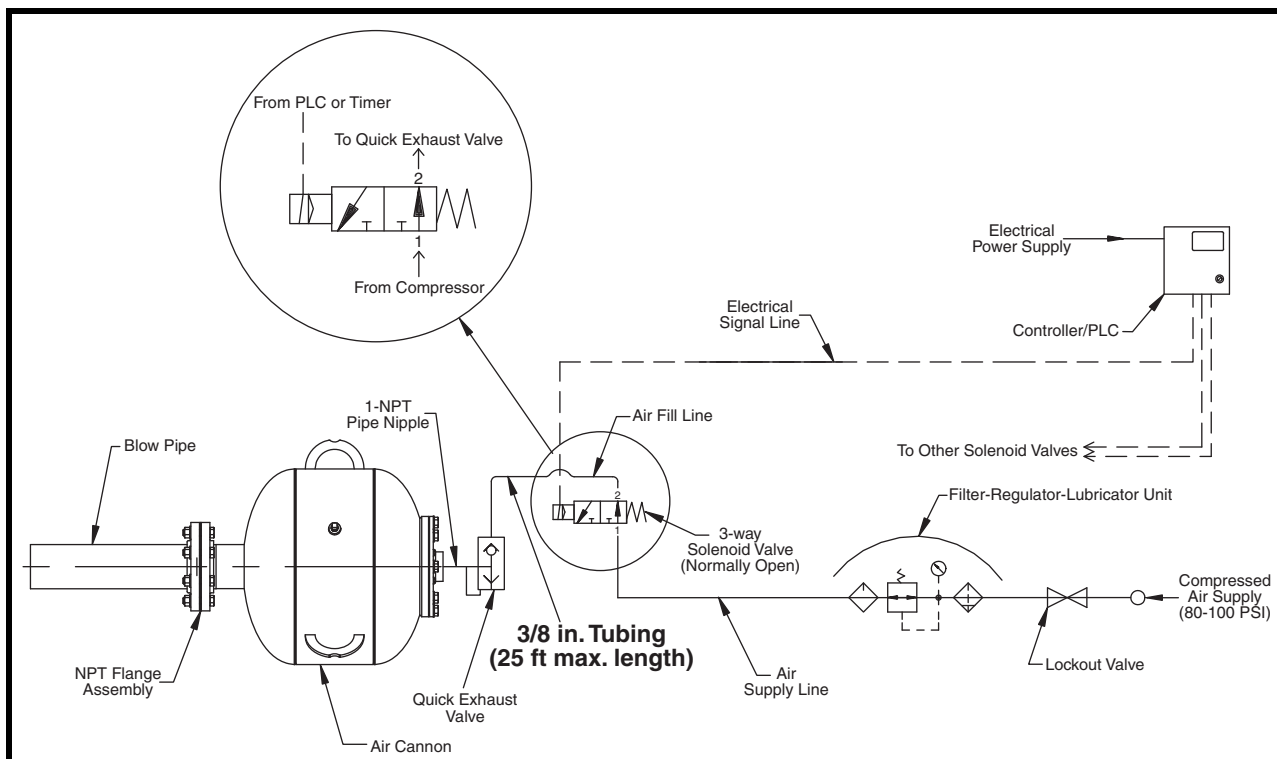

Figure 15. Solenoid Enclosure Piping
16. Refer to Figure 15 and follow steps 1 through 4 under “Installing manual valves and electrical solenoid valves.”